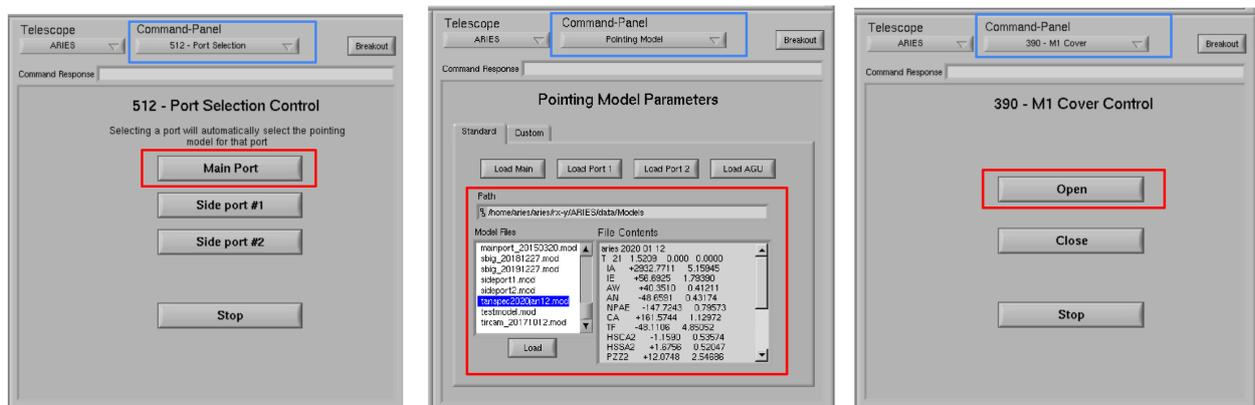

Figure 1: Main port selection panel, pointing model selection panel, and M1 mirror cover panel on TCS main window.
1. On TCS software, select in the command panel as **512-Port selection** control. See blue box in Figure 1.
2. Click the **Main Port** button. See red box in Figure 1.
1. Select the latest pointing model of TANSPEC from the command panel. See the blue box in Figure 1.
2. Select the pointing from path - `/home/aries/aries/rx-y/ARIES/data/Models`. See red box in Figure 1.
1. Select **390 - M1 cover** in the command panel. See the blue box in Figure 1
2. Select **Open** shown in red box in Figure 1.